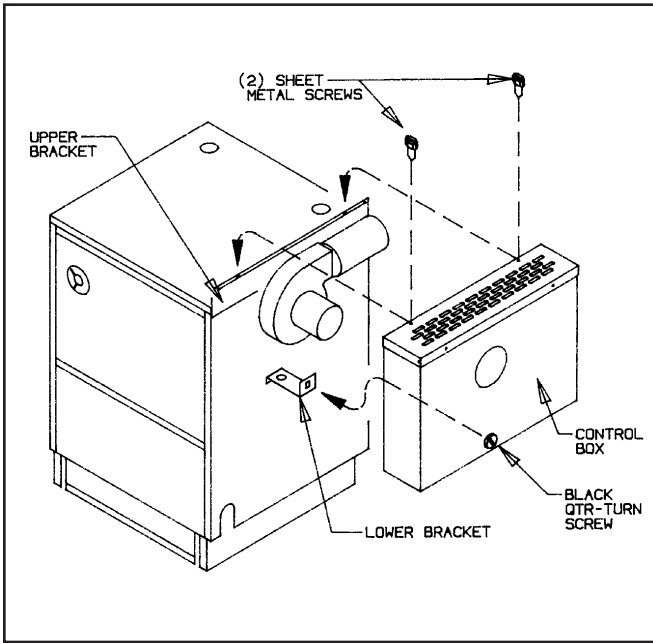

Figure 20.
Removing Control Box (cover). See Figure 20.
1. Remove control box (see instruction under "Safety Check". See Figure 20).